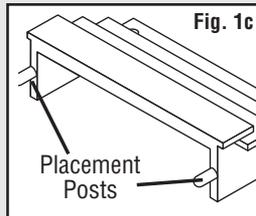

Fig. 1c
- Be careful to not remove placement posts or installation tabs (**Fig. 1c**).